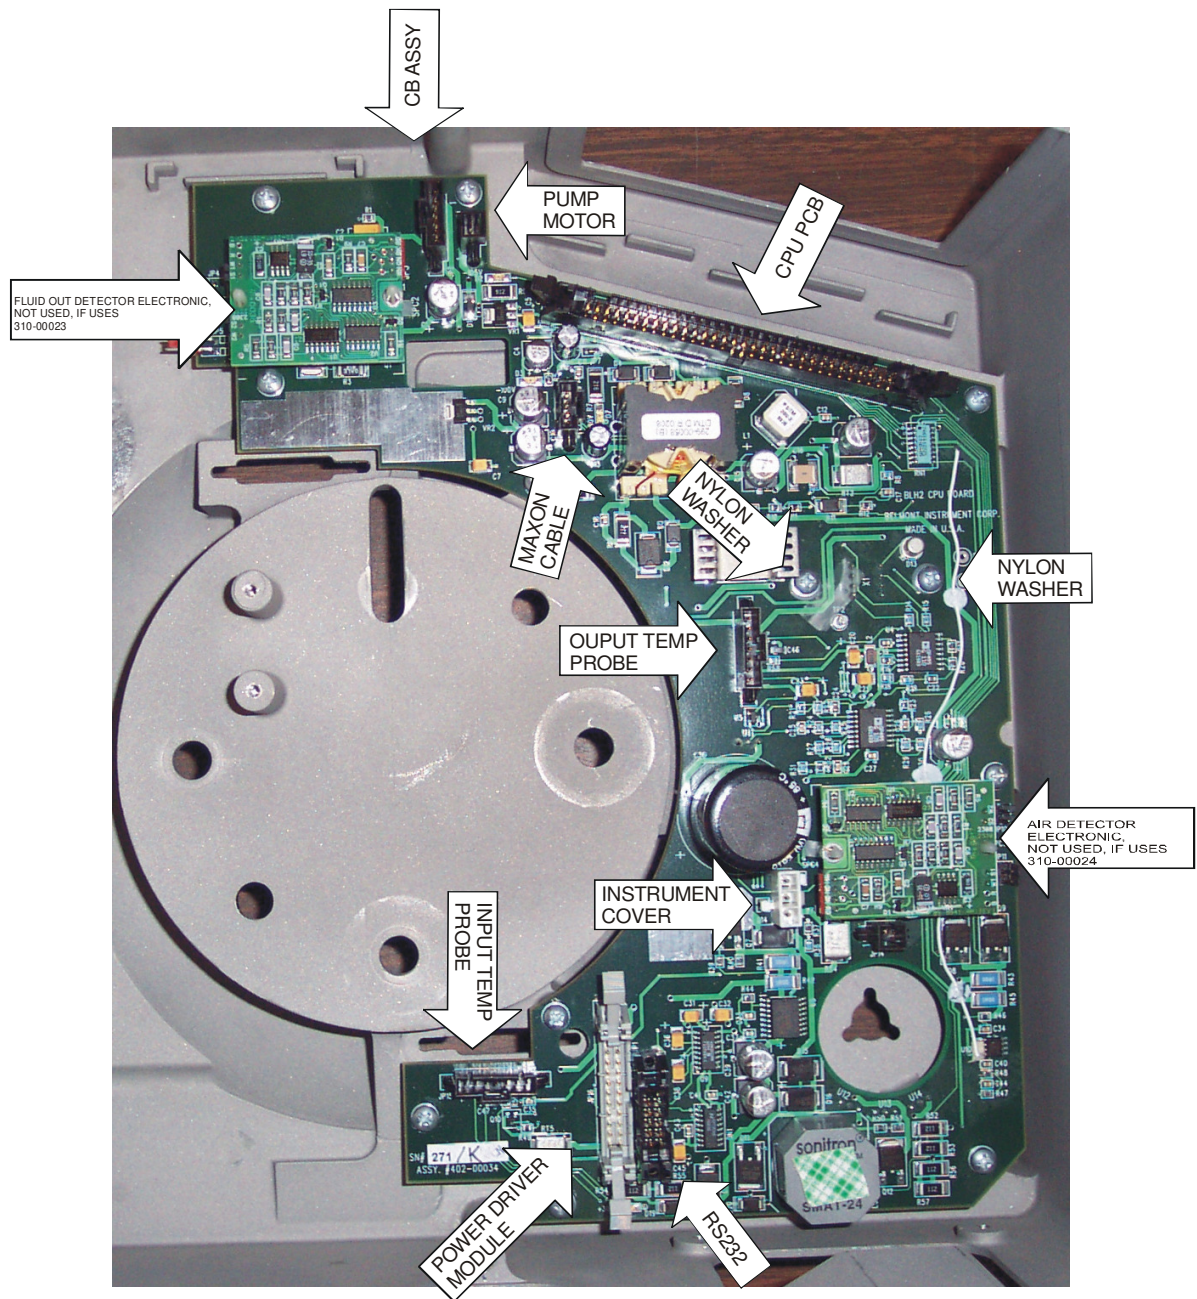

Figure 5: Daughter PCB
4. Reinstall 12X pan head Phillips screws & 2X nylon washers. Figure 5.
5. Reattach all cables connected to Daughter PCB. Figure 5.